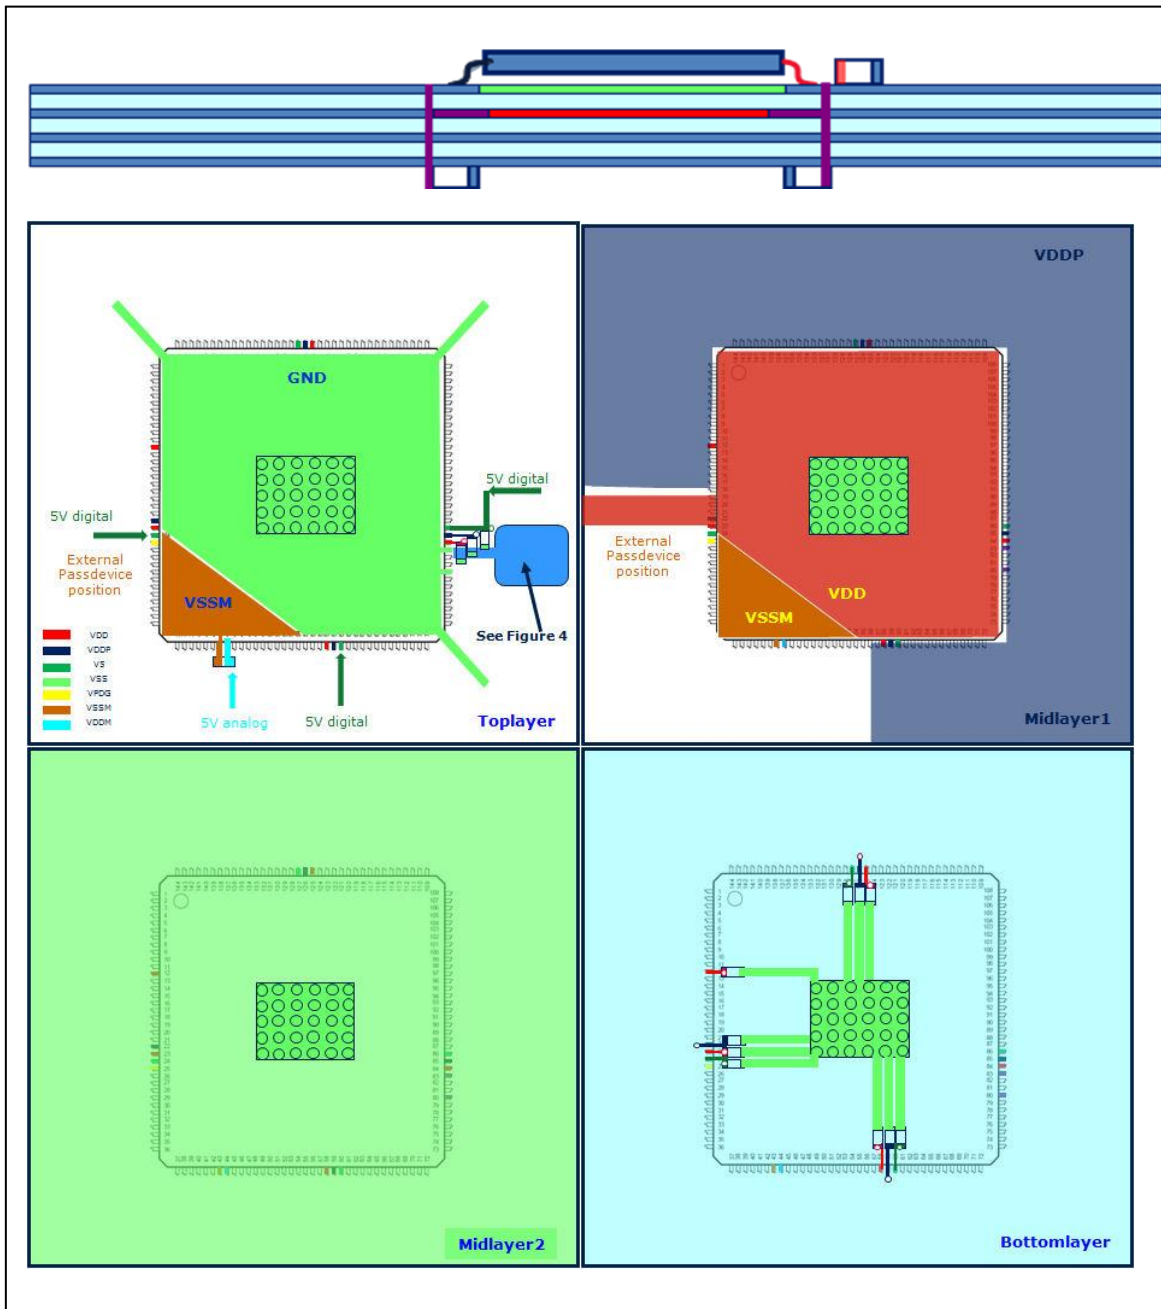

Figure 2 Capacitor Placement Example for Decoupling of TC1724 (TQFP-144) on a four layer board
- All supply domains of TC172x should be decoupled separately (see decoupling placement examples in Figure 2 & 3).
In Figure 2 & 3 shown examples are based on device power supply concept and implementation. Alternative implementations are also acceptable and must be evaluated within application by customer.